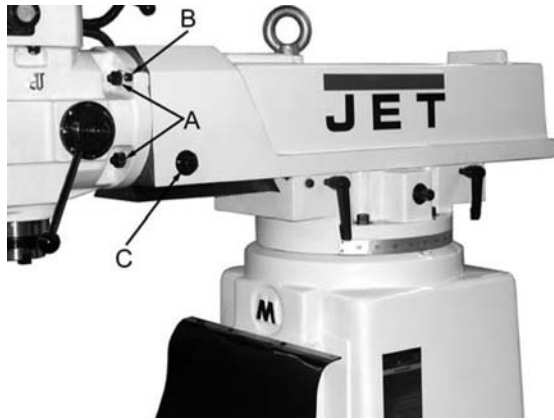

Figure 9
1. Loosen four nuts (A, Fig. 9) with a 22mm wrench, just enough to allow the head to pivot into position. **Do not** remove the nuts; just break the nuts loose.
3. Gently tap the pin into the hole while slightly rocking the hex head of the worm shaft (C, Fig. 9) back and forth.
1. Remove the pin (B, Fig. 9) by tightening the nut.
2. Loosen four nuts, (A, Fig. 9) with a 22mm wrench, just enough to allow the head to move into position. **Do not** remove the nuts; just break the nuts loose.
3. Turn the hex head of the worm shaft (C, Fig. 9) using a 19mm socket and breaker bar. Pivot the head aligning the scale marks to the desired angle.
4. Tighten the four bolts (A, Fig. 9).